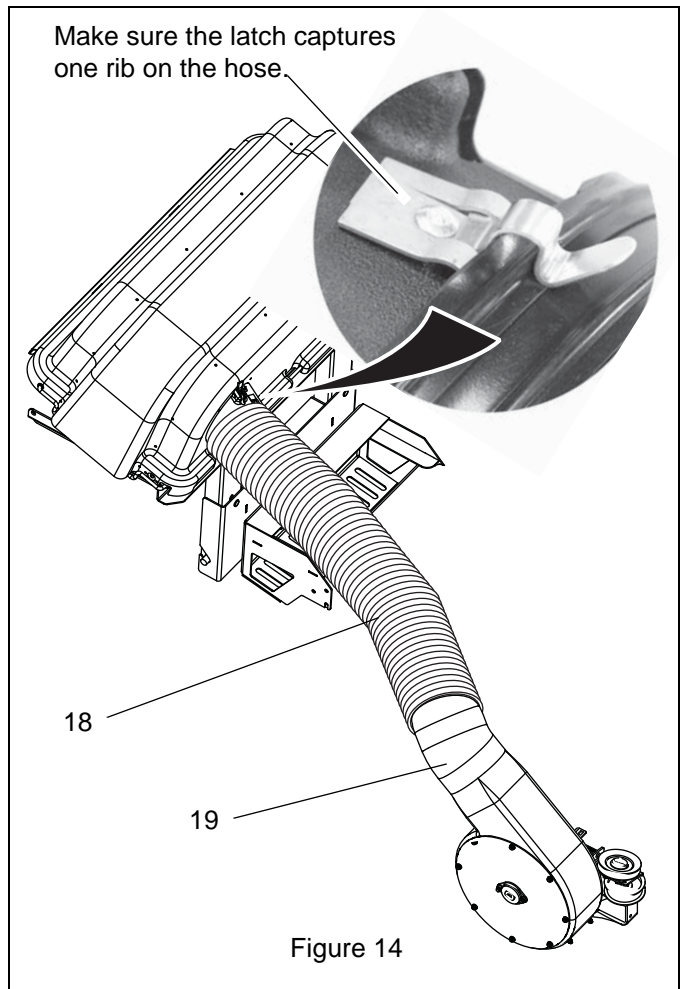

Figure 14
1. Lift thumb latch and remove hose from blower assembly and bagger assembly (see figure 14 on page 14).
2. Lift thumb latch on bagger assembly and remove hose (figure 14).